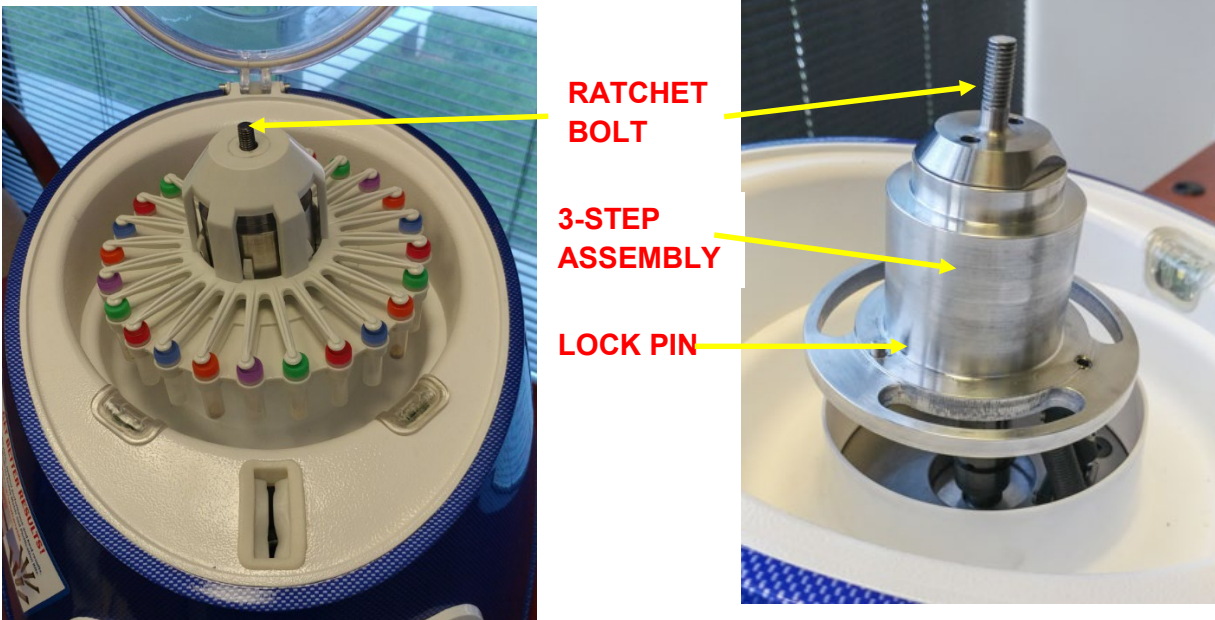
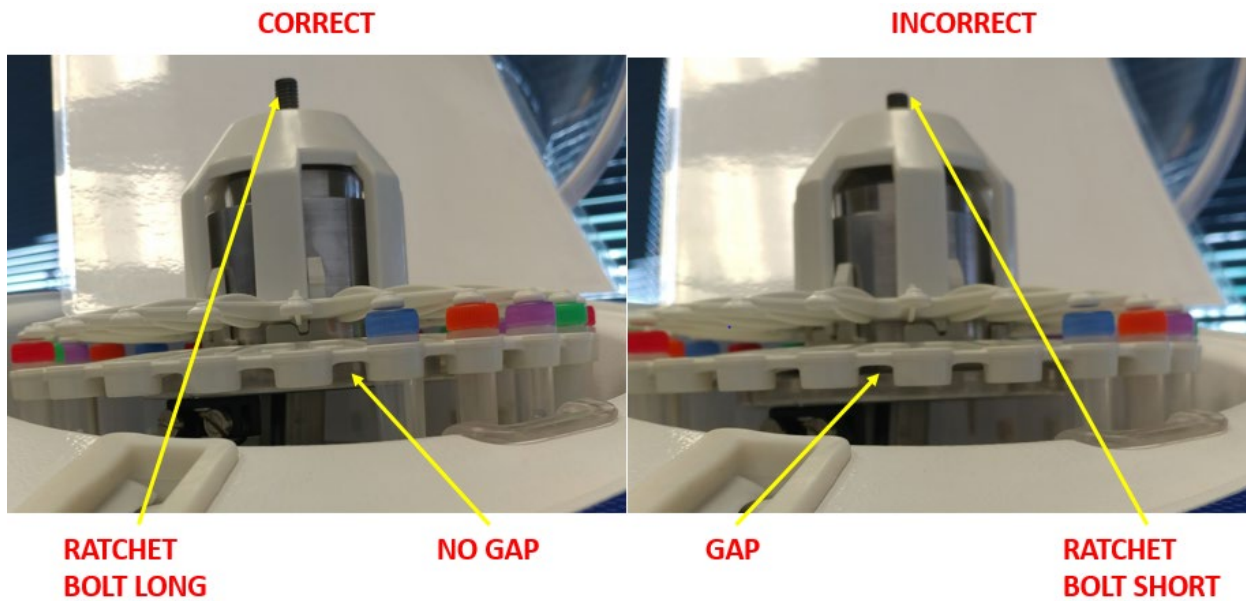

Figure IV-5: Adaptor Placement
Figure IV-6: Rotate Adaptor until Seated
11. When all the sample tubes have been loaded, place the 'Adaptor' back into the FastPrep-24™ 5G. Align the locking pin of the 'Three Step Assembly' with an alignment hole under the 'Adaptor', ensuring its proper placement (Figure IV-5). **Rotate the 'Adaptor' on the '3-Step Assembly' until the locking pin engages, no more than $\frac{1}{3}$ turn, and the adaptor will drop down on the pin ~5 mm (Figure IV-6).**
Refer to (Figure IV-2) and (Figure IV-5) for views of 'Alignment Holes' 'Three Step Assembly' and 'Locking Pin.'
22. Rotate the 'Cam Lock', in the unlocked position, counter-clockwise to loosen until the threads disengage (Figure IV-16). Remove 'Cam Lock' from device (Figure IV-5).